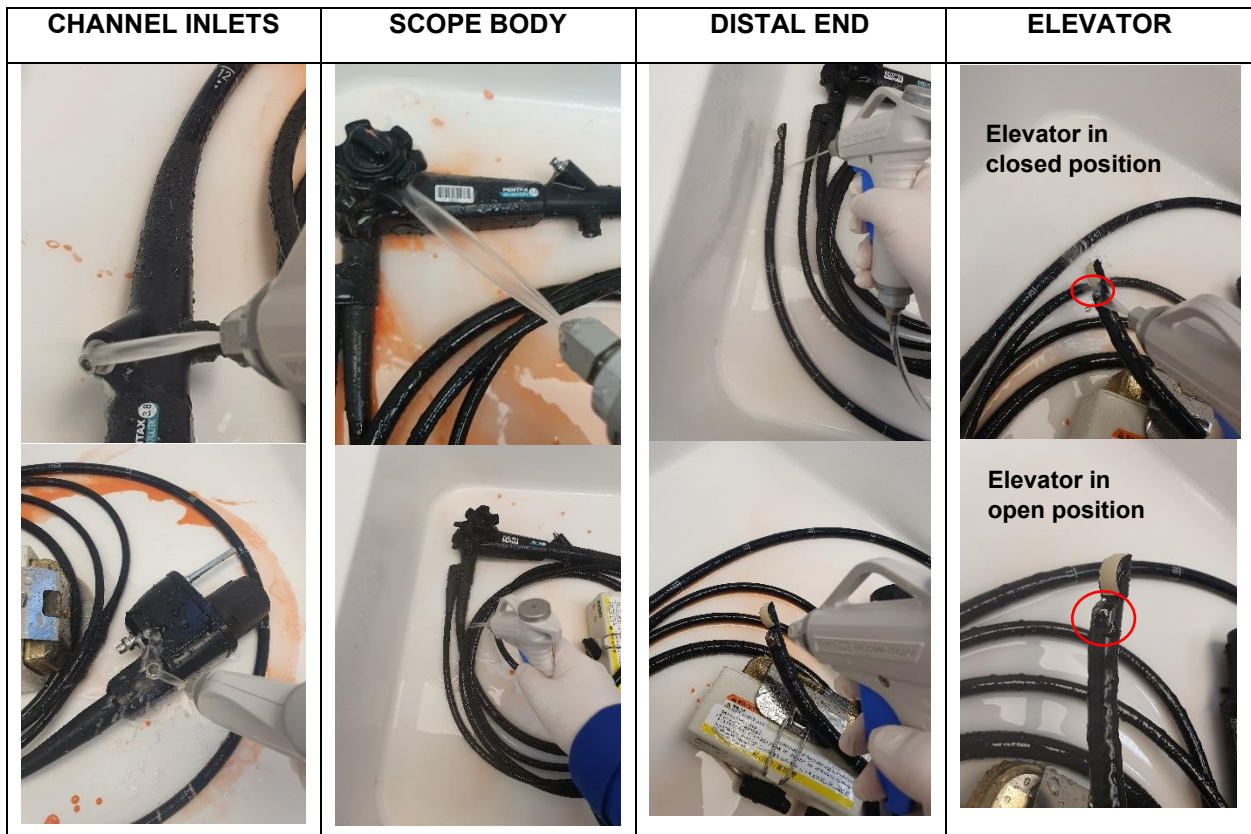

Figure 39 Different steps of the cleaning procedure with AquaJET
4. Once the Initial external cleaning with AquaJET is initiated, follow the instructions indicated in the central area of the touchscreen. Different steps of the procedure are indicated in RED on the touchscreen, and each of these steps is illustrated in the photos (see Figure 39) and described in detail below.